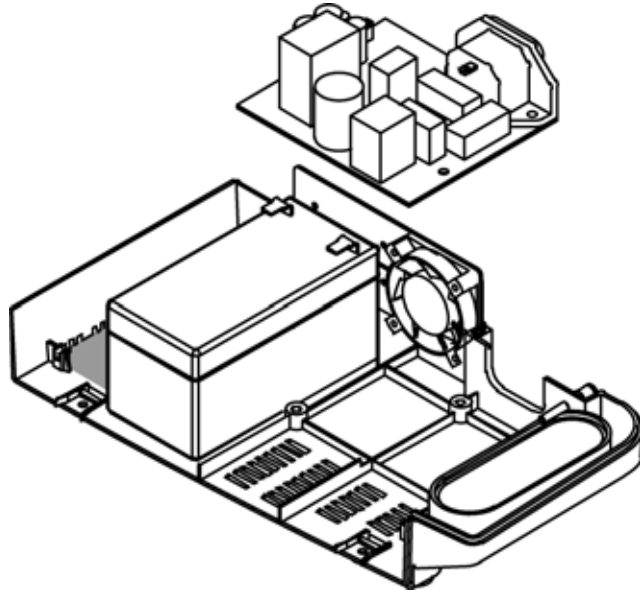

Figure 30: Power Supply Removed
6. Lift the power supply out of the bottom case. See Figure 30.